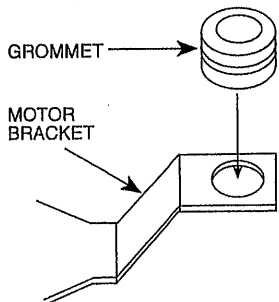
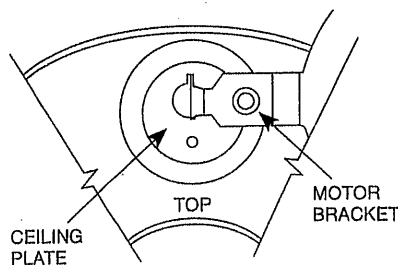
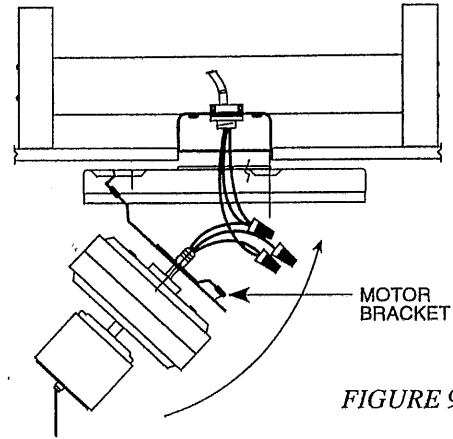

FIGURE 8A
FIGURE 8B
FIGURE 9
**A.** Before hanging motor from ceiling plate, it is necessary to install the three grommets (provided) into the holes in the motor bracket as shown. See Figure 8A. To hang the motor from the ceiling plate while making wire connections, insert the "T" end of the bracket into the large hole in the ceiling plate with the notch in it. Insert as shown in Figure 8B and rotate so top of motor is towards center of ceiling plate. See Figure 9. Be careful when wiring so that you do not hit the motor and let it turn, or it could fall out of the large hole.
**B.** Connect electrical supply leads to the leads from the motor, using approved connectors. See Figure 9.